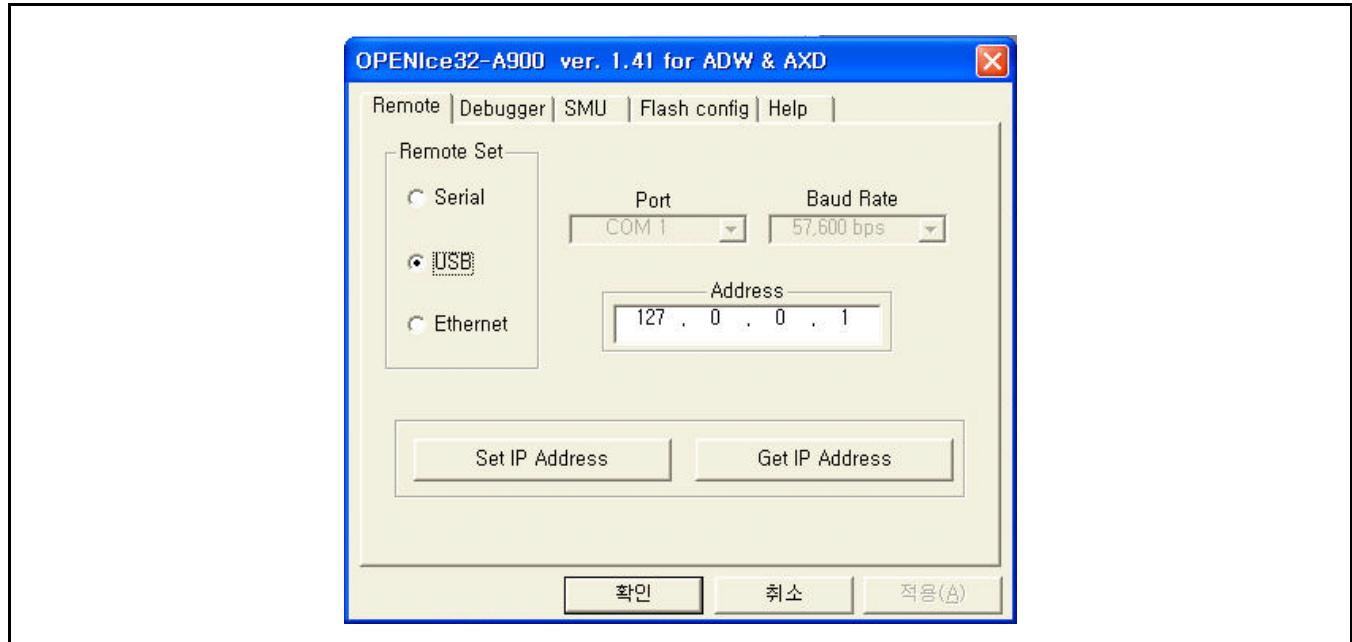

Figure 2-15. OPENice32-A900 Configuration: Communication Setting Page
4. ConfigureOPENice32-A900 dialog box (See Figure 2-15, 2-16).